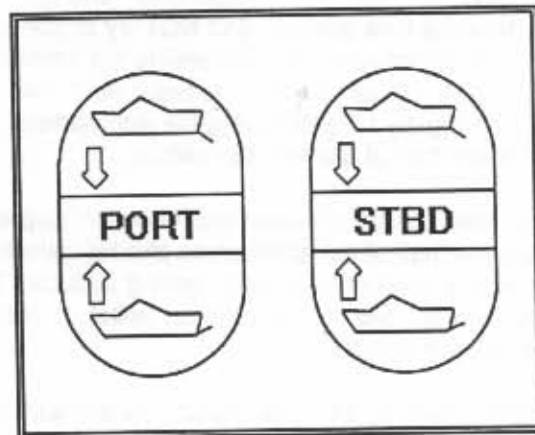

Figure B9: Trim Tab Switches
The trim tab control uses two (2) momentary-type rocker switches. The trim tab switches control the attitude or position of the boat. The trim tab switches are illustrated (with boat drawings) and when depressed, indicate what will happen to the bow of the boat. See Figure B9.